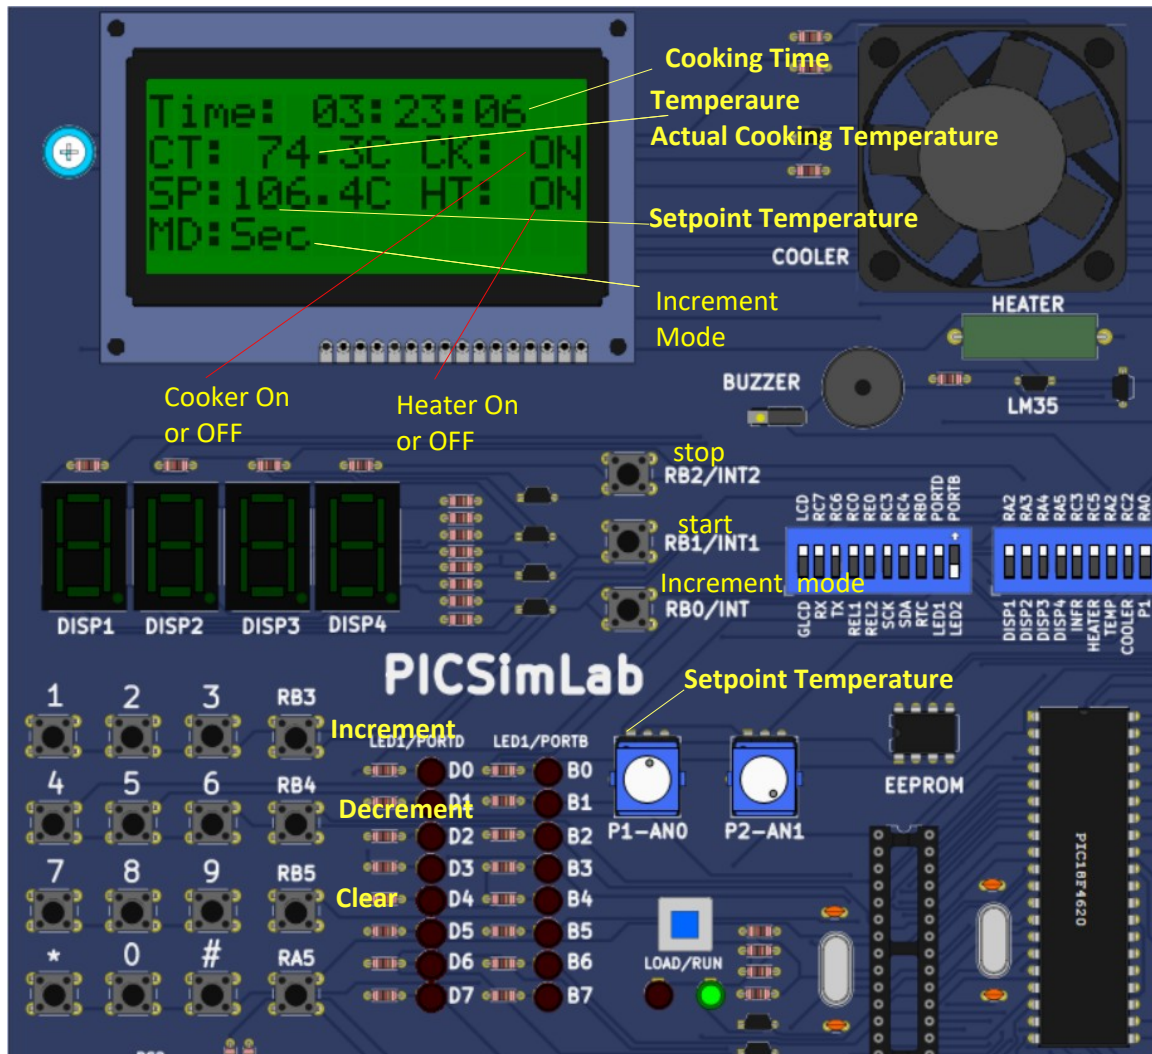

Figure 1
*Display the Set Point on the **Third** Line of the Display. See Figure 1.*
*Display the Temperature on the **Second** Line of the Display. See Figure 1.*
It shall be displayed as **Time: HH:MM:SS**. See Figure 1.
Examples MD: Min another Example MD: 10Sec. See Figure 1
**SP: 121.1 HT: ON See Figure 1 ( HT is Heater it Can be On or OFF)**
**See Figure 1 on Next Page.**